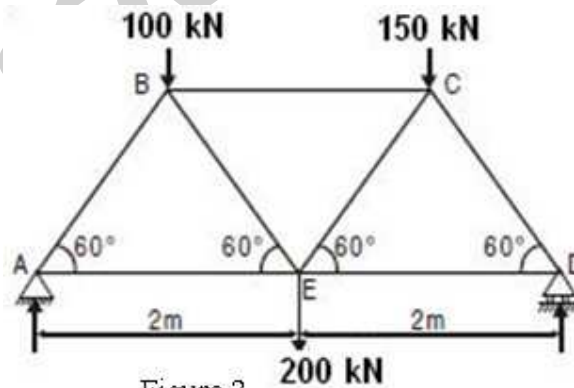

Figure 2
8. Determine the forces in all the members of the truss shown in Figure 2 using method of joints and indicate the magnitude and nature of forces on the diagram of the truss. All inclined members are at  $60^\circ$  to horizontal and length of each member is 2 m.